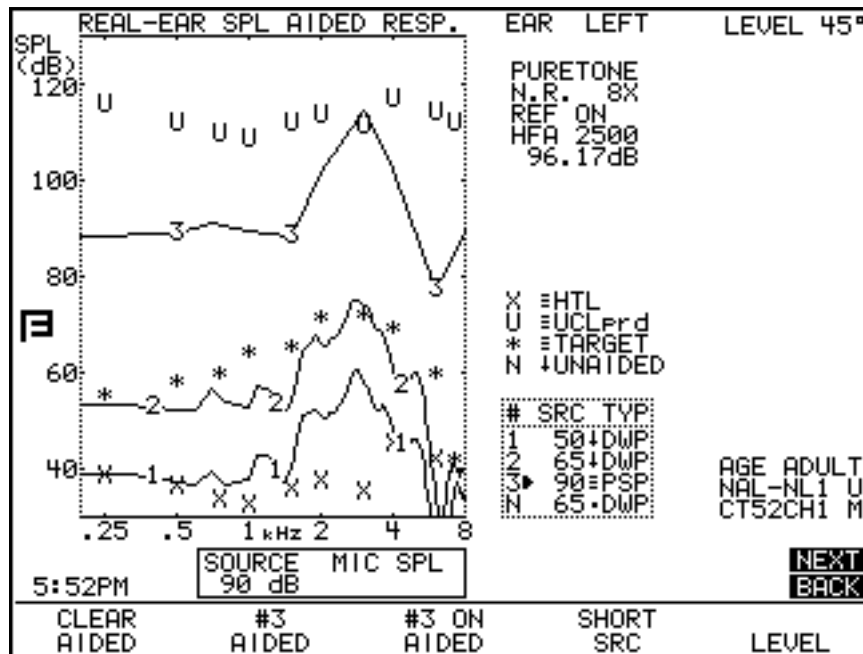

Figure 4.5.2—Real-Ear SPL screen with measurements
10. Repeat steps 6 through 9 for AIDED 2 and AIDED 3. See Figure 4.5.2.